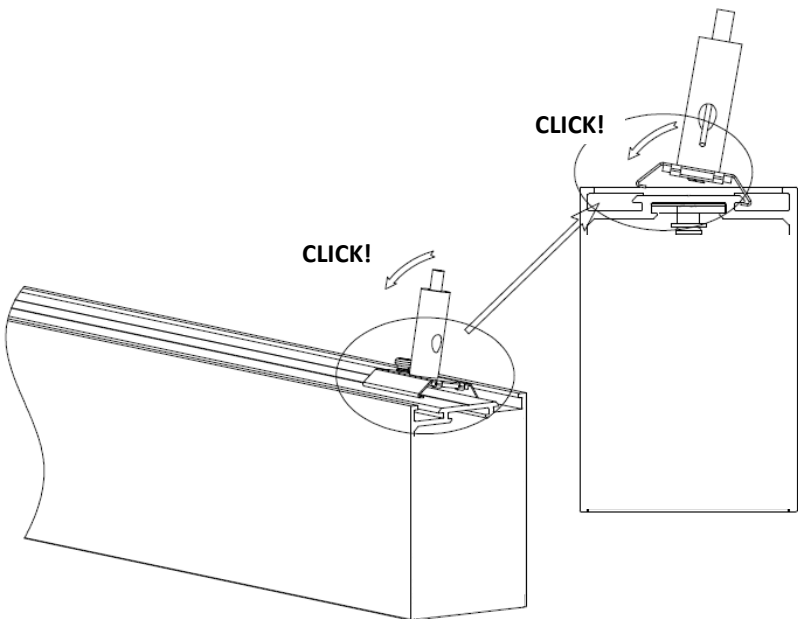

FIG. 2
- Attach the mounting clips to the fitting. A loud CLICK will indicate proper alignment and a secure grip (Fig. 2)